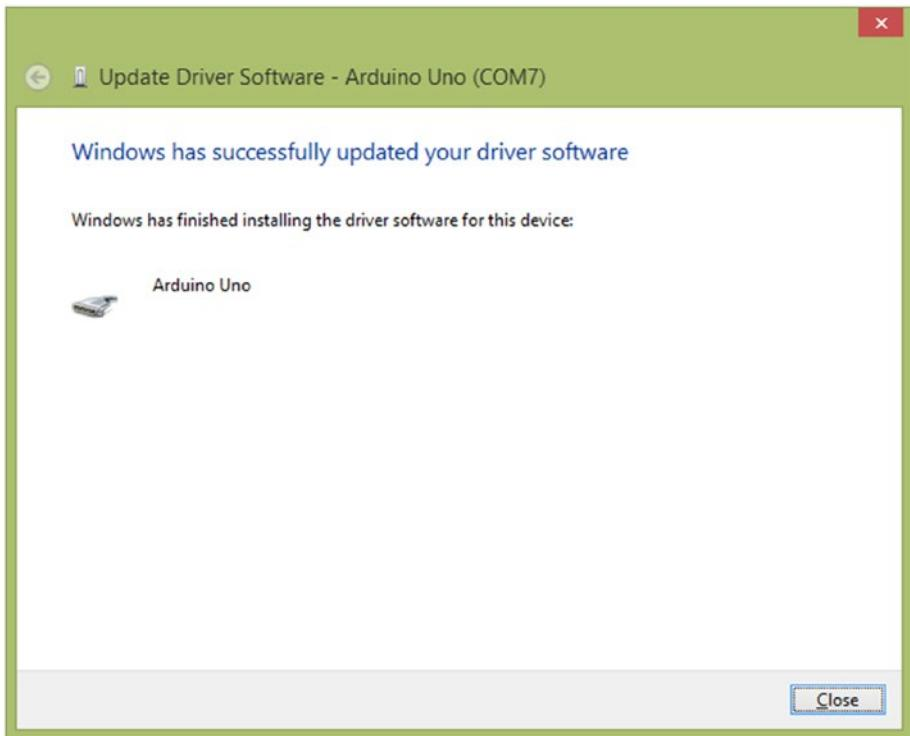

Figure 3-11. This step will confirm that Windows has successfully updated your driver software
9. Click the Close button to exit the wizard (Figure 3-11).